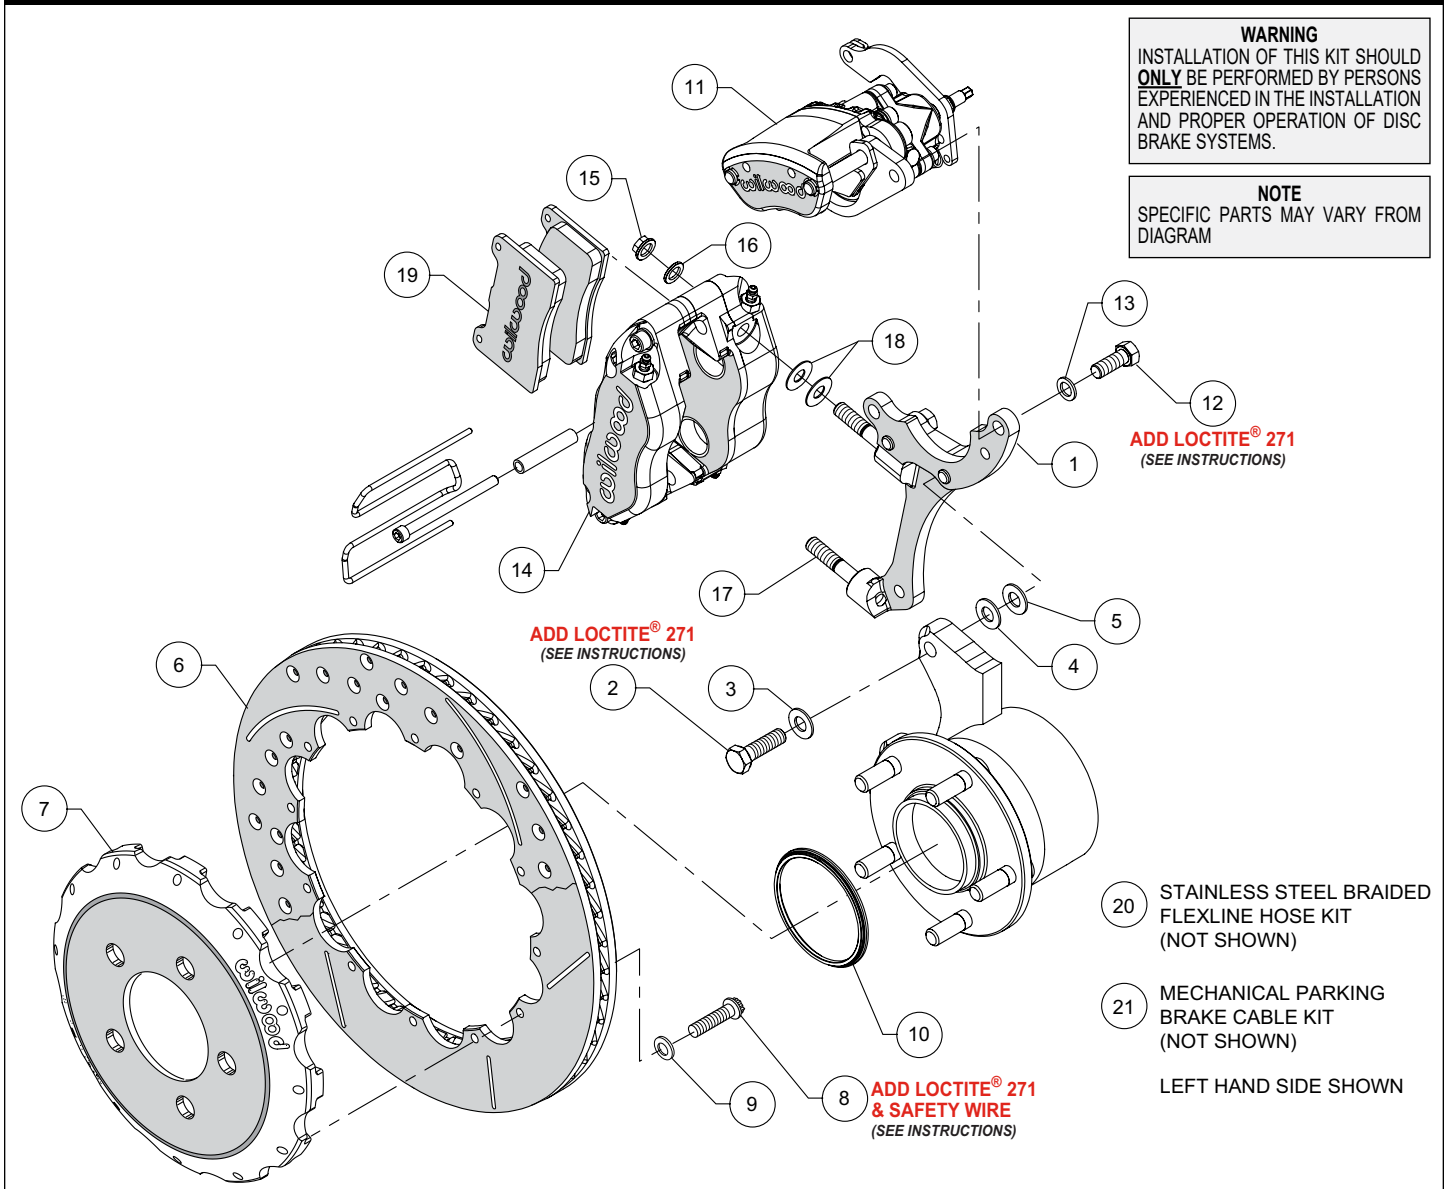
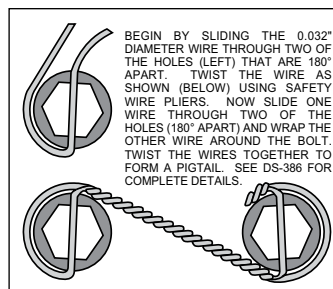

Figure 1. Typical Installation Configuration
Figure 4. Safety Wire Diagram
Assembly Instructions (numbers in parenthesis refer to the parts list and Figure 1 on the preceding pages):
- The caliper mount bracket (1) should initially be installed with clean, dry threads on the mounting bolts. Orient the bracket as shown in Figure 1, and Photo 1, and install using bolts (2) and washers (3). Initially place one .030" thick shim (4) on each bolt between the bracket and upright, Figure 1. Temporarily tighten the mounting bolts. **NOTE:** *The bracket must fit squarely against the mount bosses on the upright.* Inspect for interference from casting irregularities, machining ridges, burrs, etc. Later, after the caliper alignment has been checked, the mount bolts will be secured using red *Loctite*® 271.
- Orient the rotor (6) and the hat (7) as shown in Figure 1 and Photo 2. Attach rotor to hat using bolts (8) and washers (9). Apply red *Loctite*® 271 to the bolt threads and torque to 155 **in-lbs** using a criss-cross pattern. For an added measure of security, the bolts may be safety wired using standard 0.032 inch diameter stainless steel safety wire as shown in Figure 4. Please refer to Wilwood's data sheet DS-386 (available at www.wilwood.com/Pdf/DataSheets/ds386.pdf) for complete safety wire installation instructions.
- Slide the rotor registration adapter (10) onto the axle register on the hub assembly with the smaller O.D. facing outward, Photo 3. Slide the hat/rotor assembly (6/7) onto the axle hub. **NOTE:** *The hat must fit flush against the axle hub flange or excessive rotor run out may result.* Install three lug nuts (finger tight) to keep the hat/rotor assembly in place while continuing with the installation, Photo 4.
- Initially place two .035" thick shims (18) on each stud as shown in Figure 1 and Photo 5. Mount the caliper (14) onto the bracket (1) using lock nuts (15) and washers (16), Figure 1 and Photo 6. Temporarily tighten the lock nuts and view the rotor through the top opening of the caliper. The rotor should be centered in the caliper, Photo 7. If not, adjust by adding or subtracting shims (4 and/or 5) between the bracket and the mounting bosses. Always use the same amount of shims on each of the two mounting bolts. Once the caliper alignment is correct, remove the bracket mounting bolts (2) one at a time, apply red *Loctite*® 271 to the threads, and torque to 35 ft-lb.
- Insert the brake pads (19) into the caliper with the friction material facing the rotor (6), as shown in Figure 1 and Photo 8. Check that the top of the brake pad is flush with the outside diameter of the rotor, Photo 9. If not, adjust by adding or subtracting
- Mount the parking brake caliper (11) onto the top section of the caliper mounting bracket (1) using bolts (12) and washers (13), as shown in Figure 1 and Photo 6. Apply red *Loctite*® 271 to bolt threads, and torque to 30 ft-lb.
- **NOTE:** OEM rubber brake hoses generally cannot be adapted to Wilwood calipers. The caliper inlet fitting is a 1/8-27 NPT (use PTFE tape on pipe threads of adapter fitting for proper sealing to caliper). Install Wilwood's stainless steel braided flexline hose kit (20), P/N 220-15043 included with this kit. Connect one end to the caliper and the other to the OEM hard line at the bracket as shown in Photo 10. **Carefully route hoses to prevent contact with moving suspension, brake or wheel components.** **NOTE:** Wilwood hose kits are designed for use in many different vehicle applications and it is the installer's responsibility to properly route and ensure adequate clearance and retention for brake hose components.